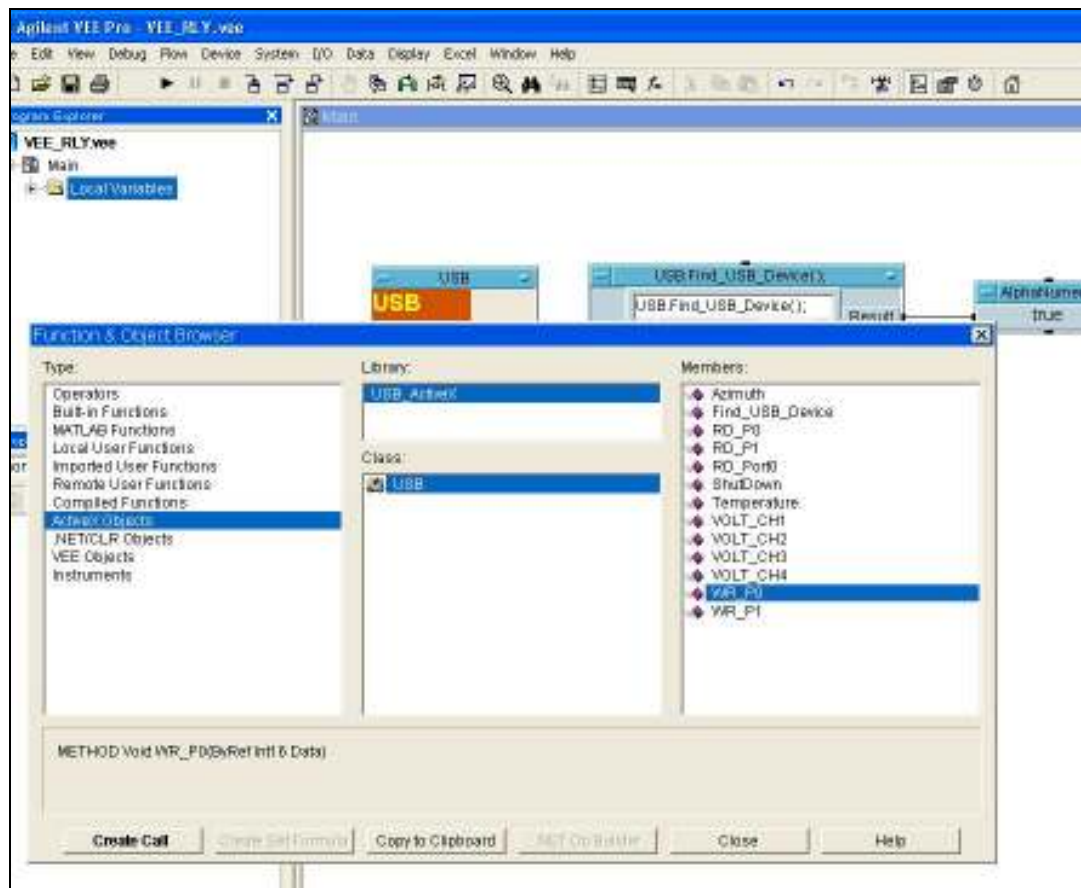

Figure 7.
9. Go to "Device" in the pull-down menu, and select "Function & Object Browser". See Figure 7 below.